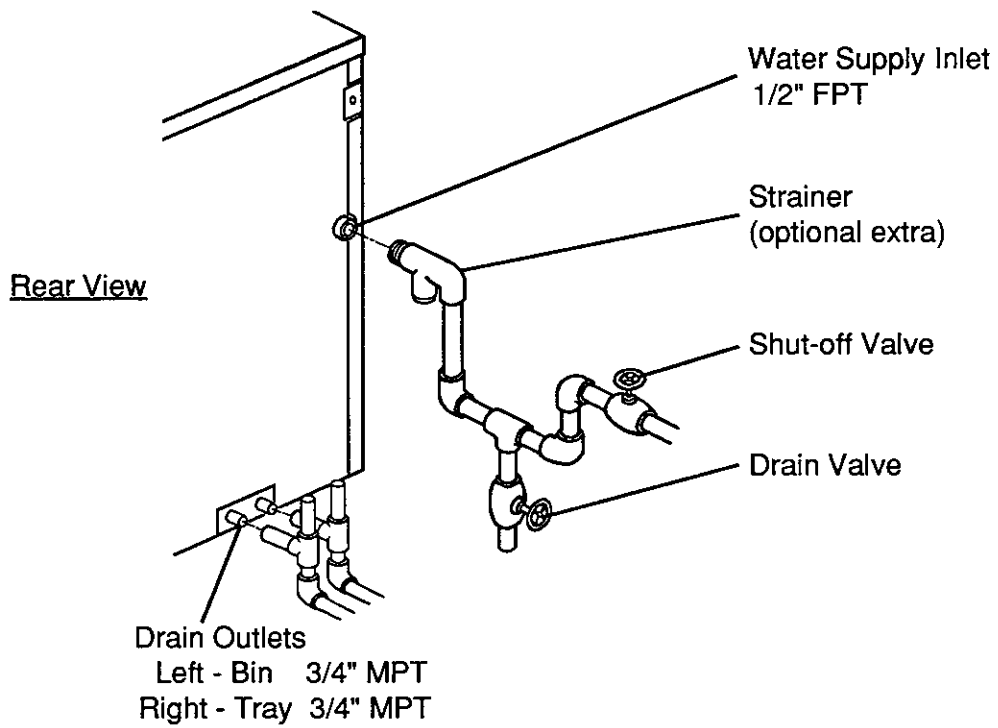

Fig. 12 Air-cooled Model
7. WATER SUPPLY AND DRAIN CONNECTIONS - See Fig. 12, 13